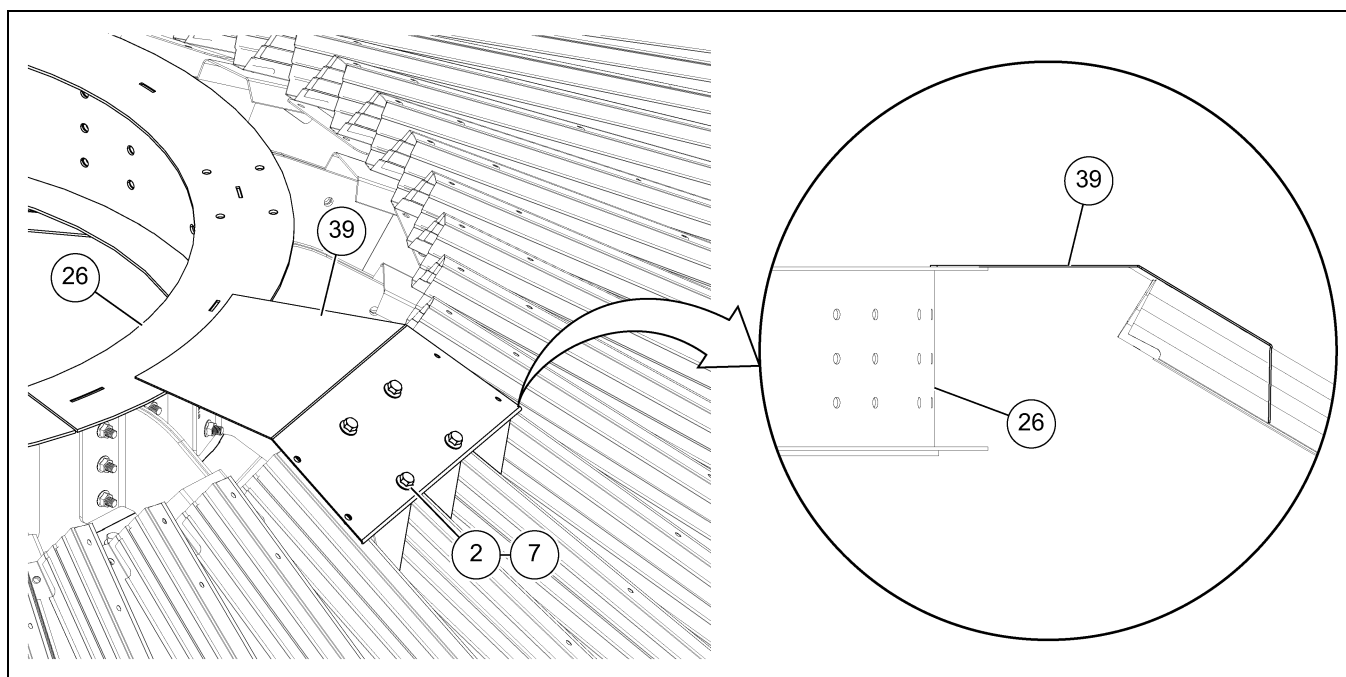

Figure 4X Installation of the First Roof Flashing Section
1. Install the first roof flashing section (39) onto the roof panel and align the holes on the roof flashing with the roof panel. (See Figure 4X.)
2. Install 5/16" x 1" flange bolts (2) and 5/16" flange nuts (7), securing the first roof flashing section (39) to the roof panel ribs.